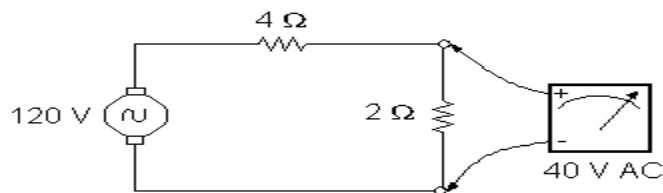

Figure 2.4. Voltage Measurement
- 2) Connect the meter in the way shown in Figure 2.4.